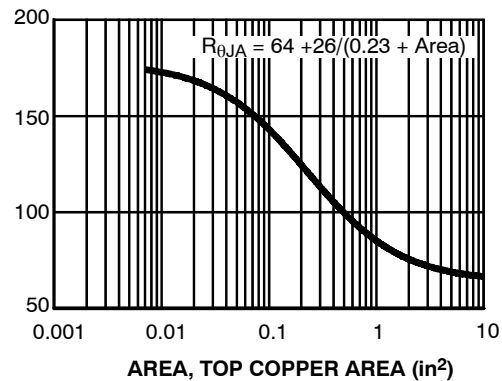

Figure 19. Thermal Resistance vs Mounting Pad Area
**onsemi** Provides Thermal Information to assist the Designer's Preliminary Application Evaluation. Figure 19 defines the  $R_{\theta JA}$  for the device as a function of the top copper (component side) area. This is for a horizontally positioned FR-4 board with 1oz copper after 1000 seconds of steady state power with no air flow. This graph provides the necessary information for calculation of the steady state junction temperature or Power Dissipation. Pulse applications can be evaluated using the Fairchild Device Spice Thermal model or manually utilizing the normalized maximum transient thermal impedance curve.
Thermal resistances corresponding to other copper areas can be obtained from Figure 19 or by calculation using